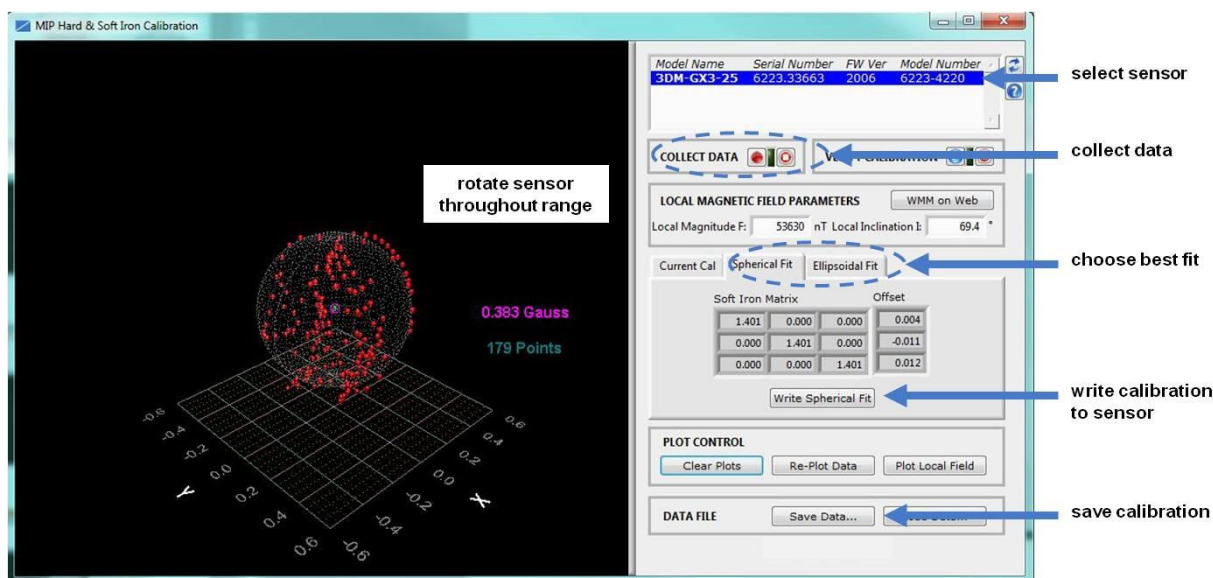

Figure 25 - Collect Calibration Data
4. Select the Arm Recording button next to Collect Data (Figure 25 - Collect Calibration Data). The software will begin taking readings, as indicated by the points counter in the graphing window. The maximum number of points is 1000, however 100 is usually adequate. As the readings are taken, rotate the sensor or sensor platform in all possible directions to get a complete profile of the baseline magnetic influences throughout the sensor frame. Data points will appear on the graph in red. For mobile sensor platforms, such as ground vehicles, move the platform as much as possible to simulate actual use without exposing it to excessive magnetic sources (such as driving over railroad tracks or near steel pilings). The intention is to get a baseline of the platform in a neutral environment that still accounts for the platform itself in all orientations. For stationary platforms the baseline may include significant magnetic influences that will be present during operation.
5. When all possible rotations are completed, select "Stop Streaming" next to Collect Data, and then select Save Data to save the calibration data points on the host computer (Figure 25 - Collect Calibration Data).